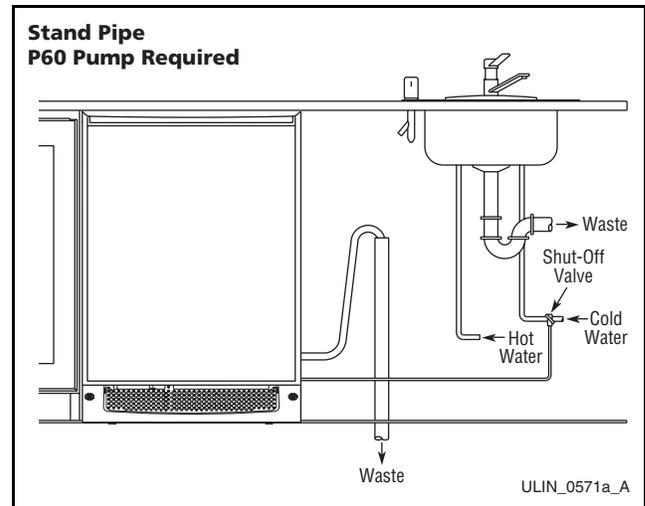

Figure 37
If your drain line will run up to a stand pipe, disposal assembly or spigot assembly or does not otherwise meet the requirements for a Gravity Drain, you may have ordered the CLR2160 or CLRCO2175 with a U-Line P60 Drain Pump. See **Figures 37, 38** and **39** for typical installations requiring a Drain Pump. If you need to install a P60 Drain Pump into your unit, see *Locally-Installed Drain Pump* on **Page 21**.
9. After unit is in its final position, finish routing drain tube to the desired location. Common installations use a floor drain, standpipe, garbage disposal, or Y-branch tailpiece type drain connection (see **Figures 37, 38 and 39**).